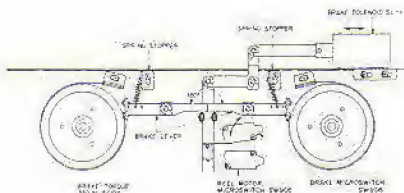

Fig. 4
5. POSITION ADJUSTMENT OF BRAKE SOLENOID SL-1 (Refer to Fig. 4)
6. POSITION ADJUSTMENT OF BRAKE MICROSWITCH SW-906 (Refer to Fig. 4)
7. BRAKE TENSION ADJUSTMENT (Refer to Fig. 4)